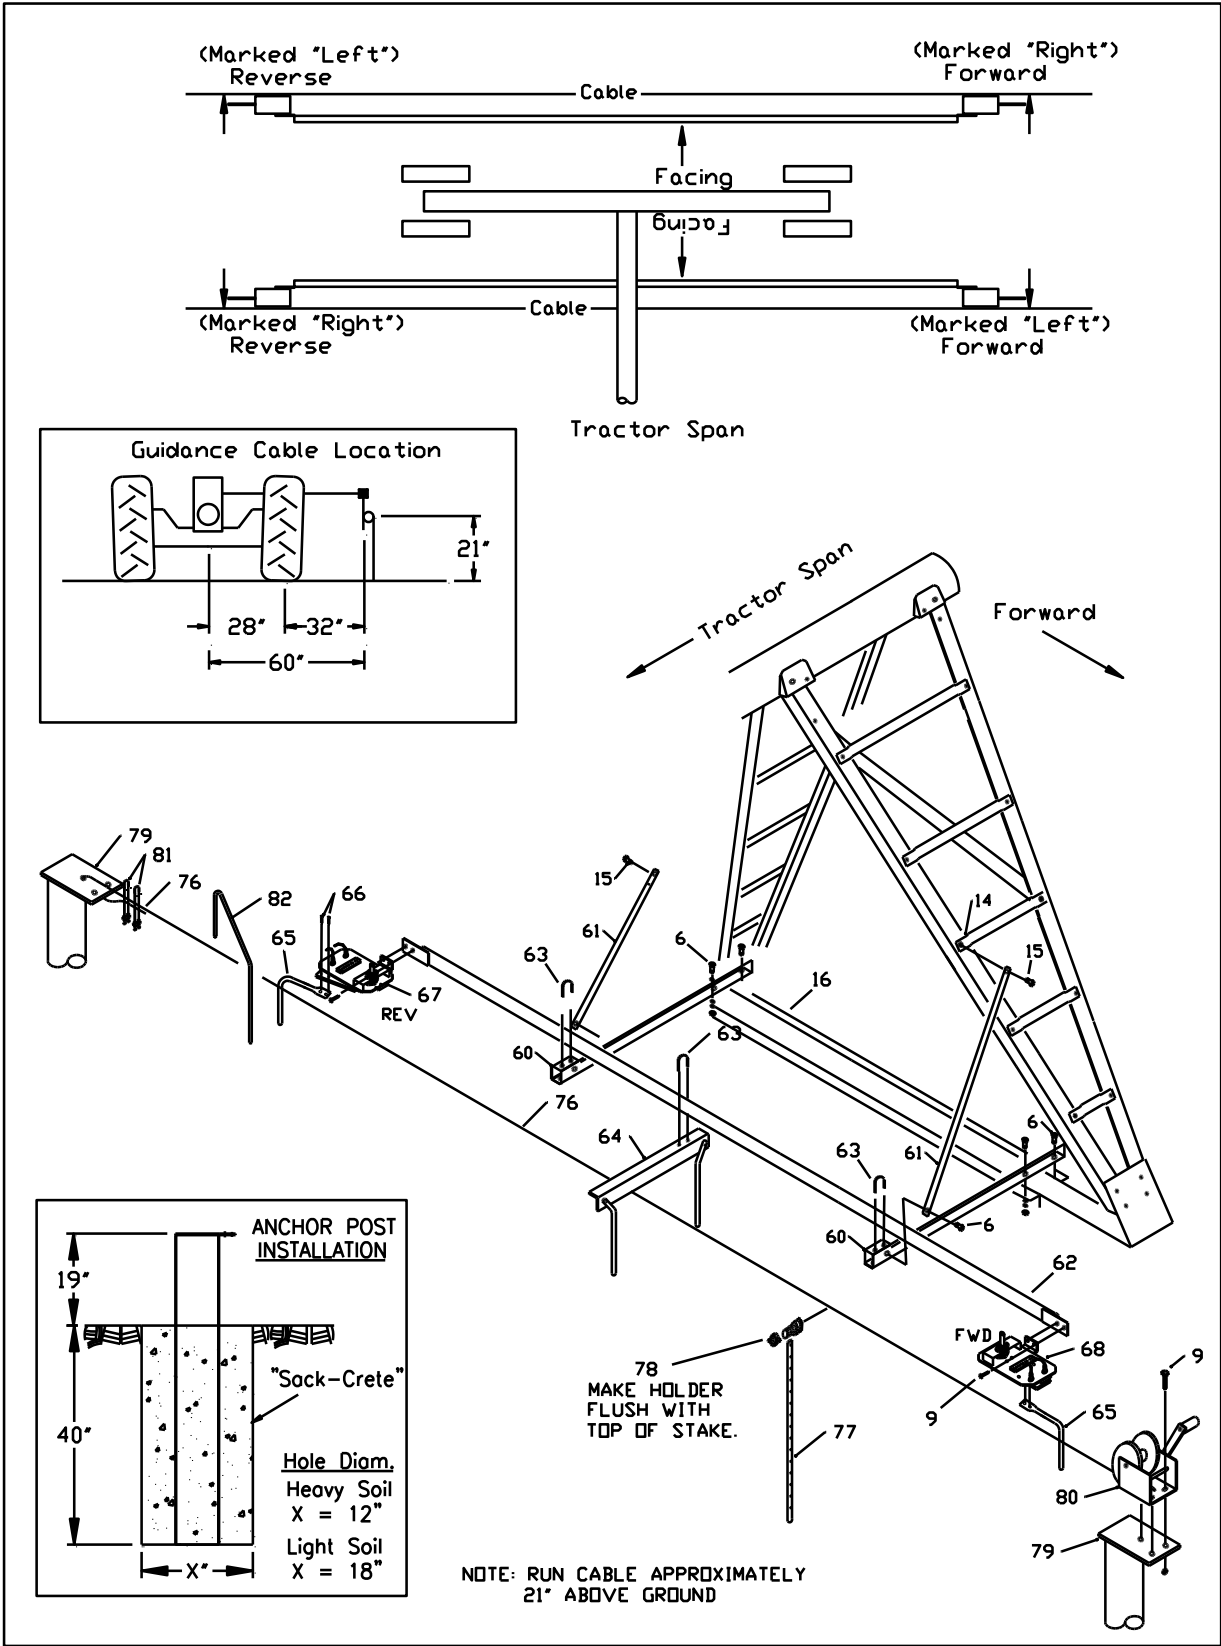

Figure 18. Above Ground Cable Installation (Non-Pivoting)
ABOVE GROUND GUIDANCE CONTROLLERS - Non-Pivoting (Figure 18)
1. The Guidance will normally be located on the field side of the tractor if possible, although it can be mounted on either side (see Figure 18).
2. Bolt two Control Tube Extension Angles (60) to Tractor Deck (16) on the mounting brackets nearest the end of the deck using four 5/8" x 11/2" bolts with locks and nuts (6). Bolt Support Straps (61) to the side of the Control Tube Extension Angles (60) using two 5/8" x 11/2" bolts with locks and nuts (6). Bolt the upper end of the Support Straps (61) to the middle tower step (14) using two 5/8" x 2" bolts with locks and nuts (15).
3. Attach Controller Tube (62) to Extension Angles (60) using two 3/8" U-Bolts (63).
4. Attach Secondary Safety Assembly (64) to center of Controller Tube using 3/8" U-Bolt (63).
5. Attach a Wand (65) to each Controller using two 1/4" x 3/4" bolts with double nuts (66).
6. Attach the Proximity Controllers (67,68) to each end of the Controller Tube using two 3/8" x 1" bolts with nuts and locks (9) as shown. Note: The Controllers will be marked for shipment as "Left" and "Right." Stand with your back to the Tractor to determine the correct side to mount them on. The Controller Wand should rotate so the torsion spring compresses and the wand is spring loaded away from the Tractor and toward the cable (see Figure 18).
GUIDANCE CABLE INSTALLATION (Figure 18)